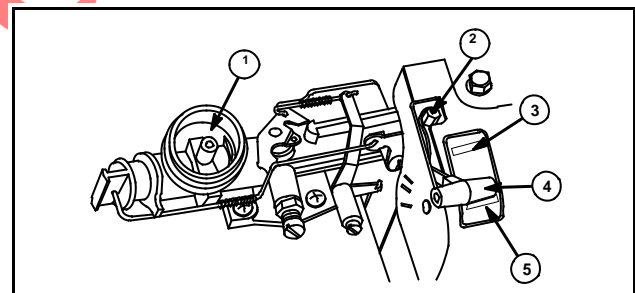

Fig. 59
Place lever (4) in choke detent (5). If choke (1) is not fully closed, adjust nylon nut (2) with socket wrench until choke just closes. Lever stop position (3), Fig. 59.